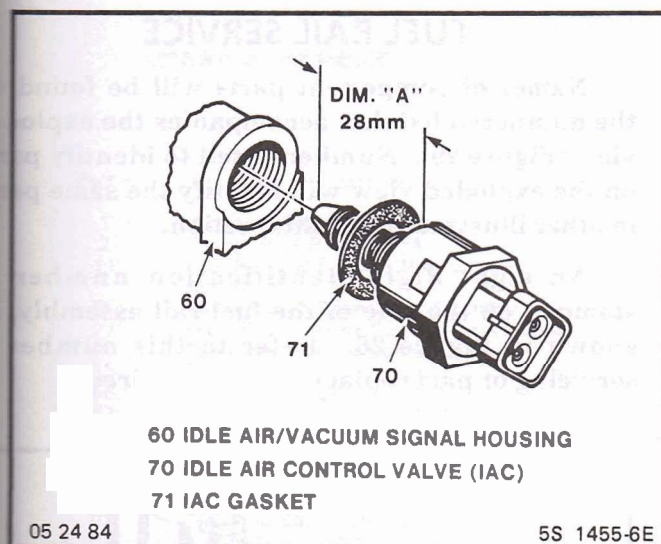

Figure 26 Idle Air Control Valve Assembly
- Distance from gasket mounting surface of IAC valve assembly (70) to tip of pintle, Dimension : "A" in Figure 26.